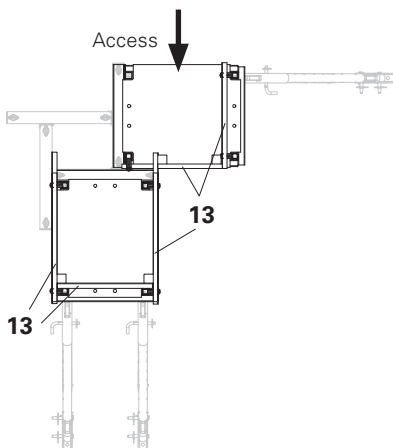

Fig. C1.07a
- Open sides of platform and platform crossings are secured with guardrails (13). (Fig. C1.07a – C1.07c)